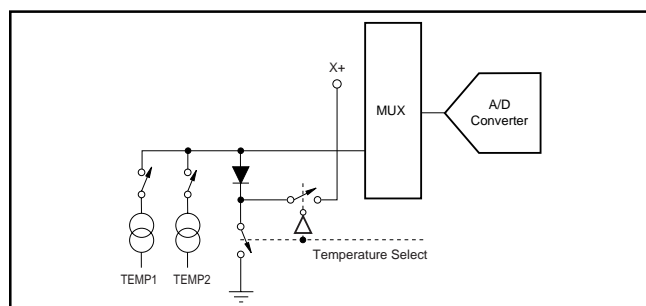
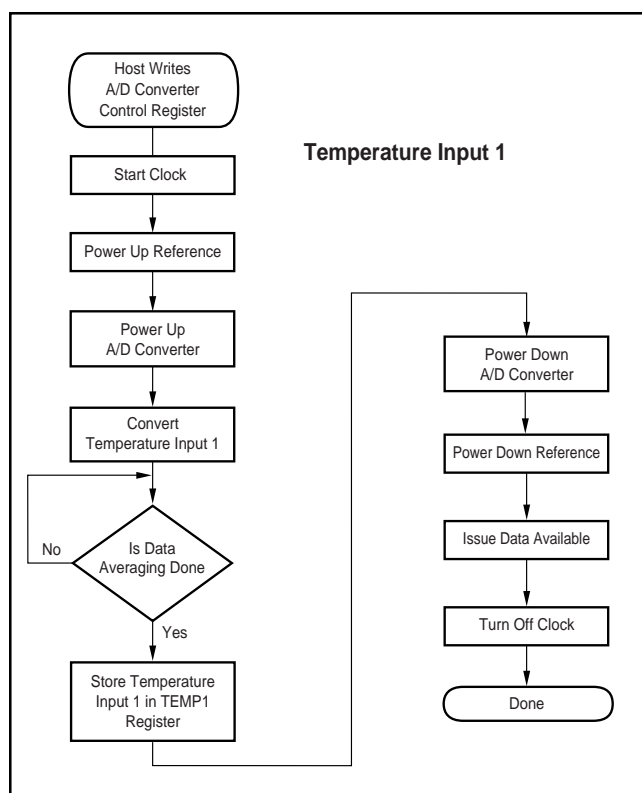

FIGURE 18. Functional Block Diagram of Temperature Measurement Mode.
FIGURE 19. Single Temperature Measurement Mode.
The TSC2000 offers two modes of temperature measurement. The first mode requires calibration at a known temperature, but only requires a single reading to predict the ambient temperature. A diode, as shown in Figure 18, is used during this measurement cycle. This voltage is typically 600mV at +25°C with a 20μA current through it. The absolute value of this diode voltage can vary a few millivolts; the temperature coefficient (TC) of this voltage is very consistent at -2.1mV/°C. During the final test of the end product, the diode voltage would be stored at a known room temperature, in system memory, for calibration purposes by the user. The result is an equivalent temperature measurement resolution of 0.3°C/LSB. This measurement of what is referred to as Temperature 1 is illustrated in Figure 19.